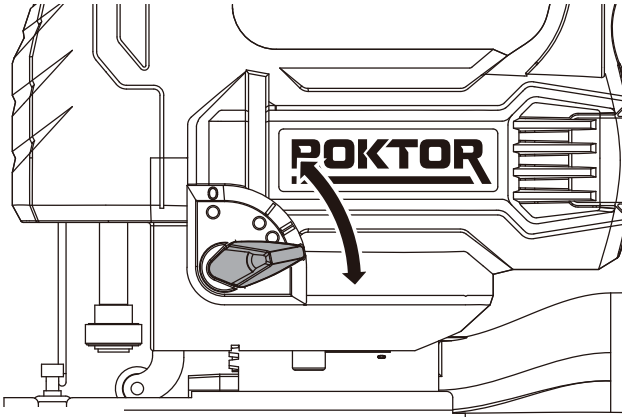

Figure 9
5. PENDULUM ACTION CONTROL (SEE FIG. 9)